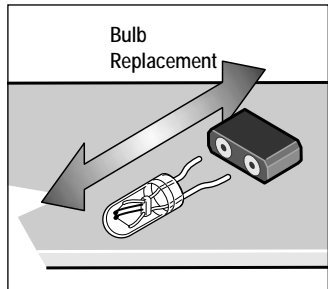

Figure 5. Lamp replacement
4. Pull the expired lamp straight out, away from its socket and replace with Lionel P/N 630-9134-300. Make sure that the replacement bulb is flat against the light panel. Refer to Figure 5.
5. Pull the expired lamp straight out of the socket. Replace it with Lionel part no. 630-9134-300. Refer to Figure 5 for lamp removal and replacement. Be sure that the replacement lamp is properly positioned on the light panel. If the bulb hangs too low, it will get caught on the interior details when you replace the light panel.
5. Pull the expired light bulb out of the socket and replace it with Lionel part no. 30-9134-300. Make sure that the replacement bulb is flat against the light panel. Refer to Figure 5.
6. Pull the expired lamp straight out, away from its socket, and replace it with Lionel P/N 630-9134-300. Make sure that the replacement bulb is flat against the light panel. Refer to Figure 5.